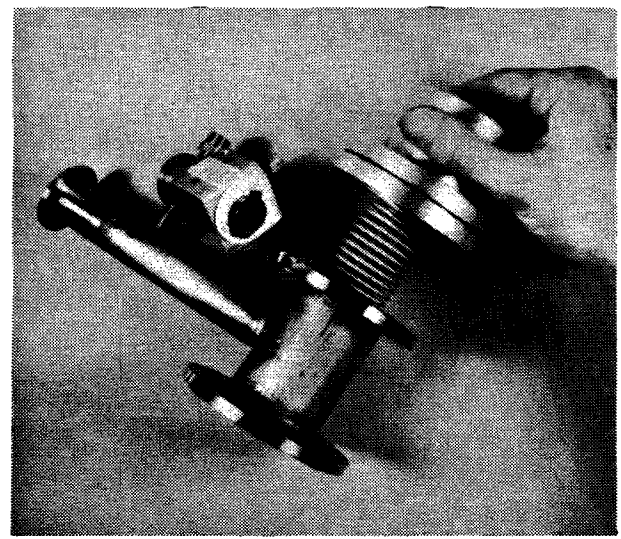

Figure 6-14. Lifting out Actuator
5. Using a 7/16-inch wrench, remove the four bolts securing the pump valve actuator to the valve body, backing them out evenly to avoid binding as the valve spring expands. Lift out the actuator (Figure 6-14). Wash the bellows and sealing disc with methanol and dry thoroughly. If the bellows is to be replaced, see paragraph 6-7.5.